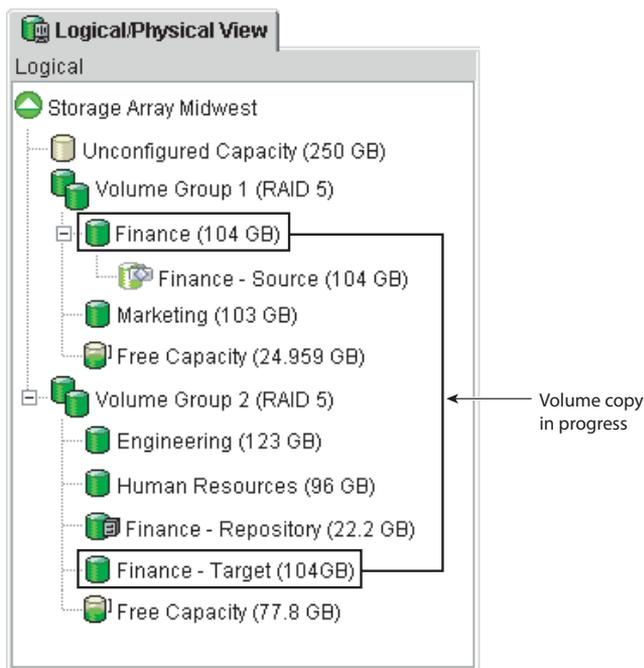

Figure 4-31 Creating a Volume Copy of Finance-Target
10. Use the Create Copy Wizard to create a new volume copy between the target volume and the original base volume to restore the data to the base volume (Finance), as shown in Figure 4-31.